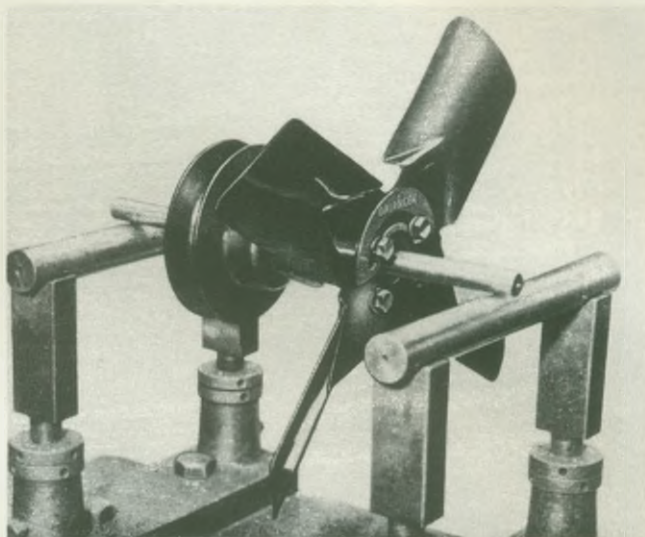

Fig. 4. The balancing of fan blade assembly, also showing the hole to be drilled for location of balancer
2. Remove fan blade assembly after removal of four $\frac{1}{4}$ " bolts, spring washers and balance piece. The fan extension is balanced during manufacture as shown in Fig. 4 and must, therefore, be reassembled in its original position, the balancer position is indicated by the drilling of a small hole through the balancer and into the fan blades.